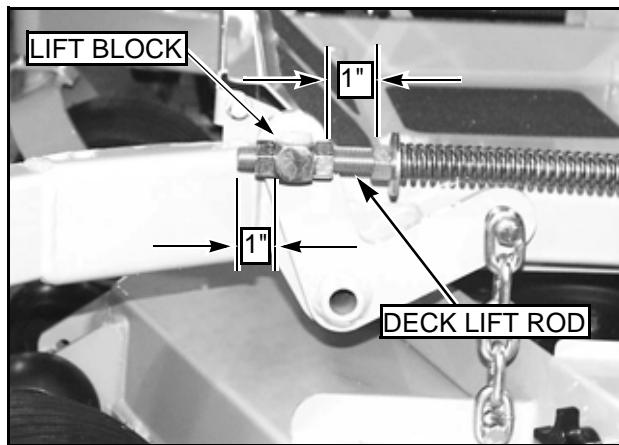

FIG. 67
9. Set the amount of threads protruding on the deck lift rod from the lift block at approximately 1" (FIG. 67).
- 27. Compress the deck lift assist springs so that there is 1" of space between the front nut on the spring and the rear nut on the deck lift block (FIG. 67). Typical both sides.